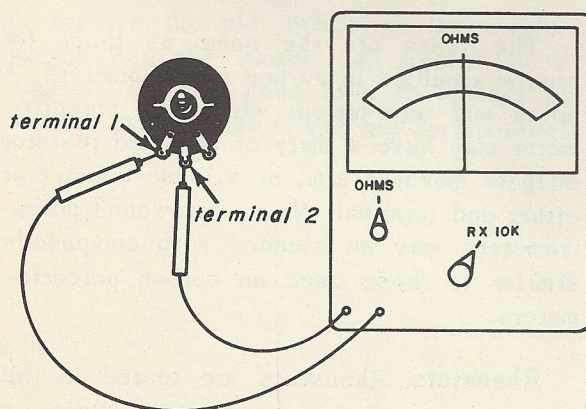

Fig. 13-17
1. Hold the potentiometer with the lugs down and the shaft toward you, as in Fig. 13-17.